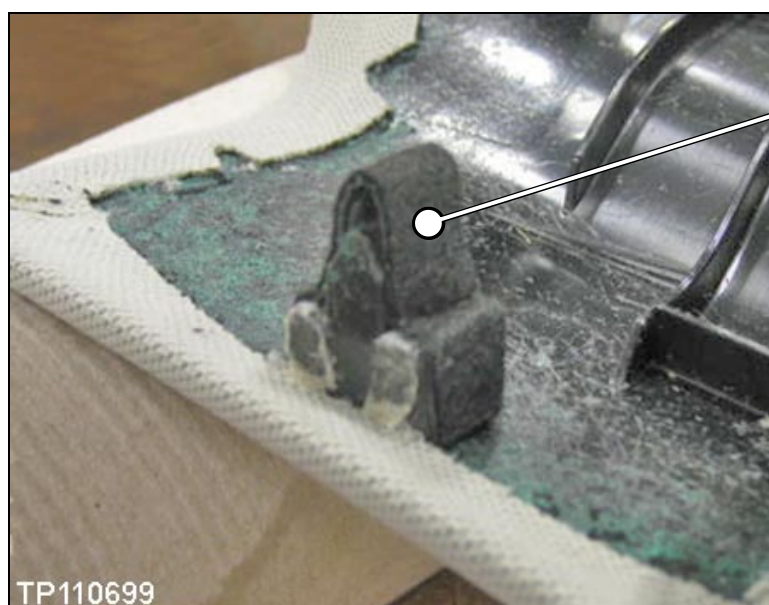

Figure 6a
- Make sure the pieces of felt tape on the front roof garnish are in place and not damaged before reinstalling (see page 6, Figure 6a and 7a).